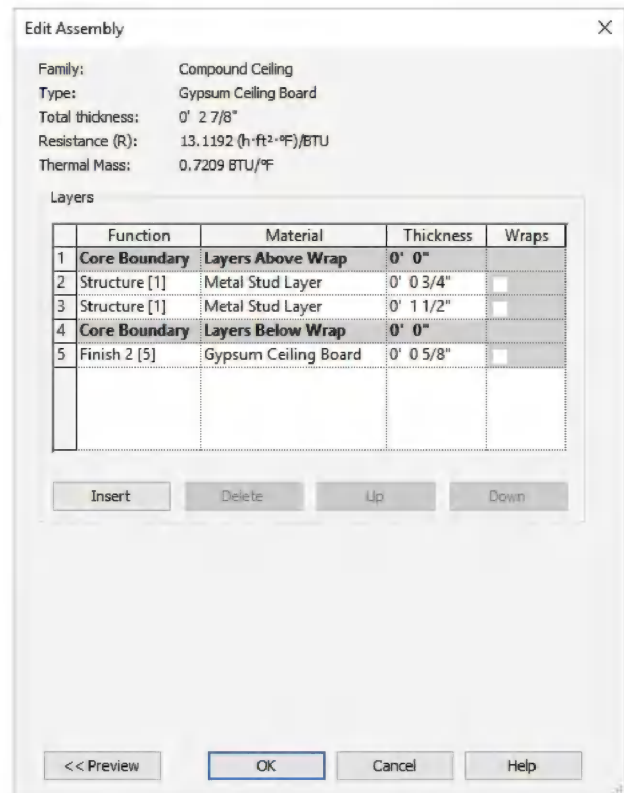

FIGURE 7-2.8 New ceiling – Edit assembly
25. Set the values as follows (Figure 7-2.8):